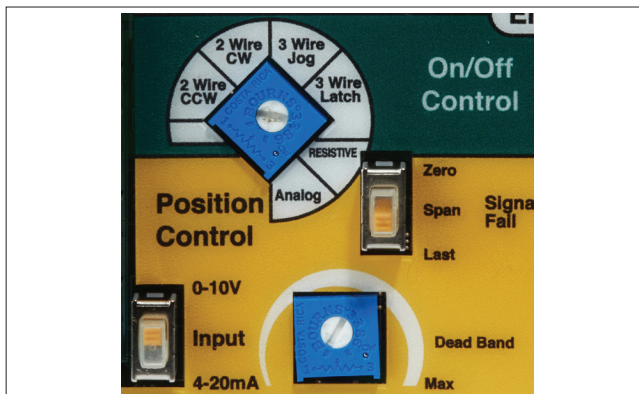

Figure 5.
The Universal Control Board can be configured for either “Two-Wire” or “Three-Wire” On/Off control, or “4-20mA Analog”, “0-10VDC Analog”, or a “Resistive” Positioner Control. (See **Figure 5** in **Section 4.3**)
6. ON/OFF CONTROL (See Figure 5 Mode Selector)